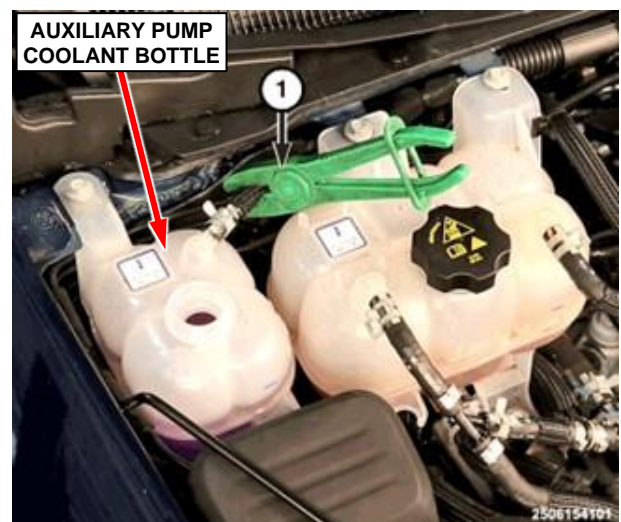

Figure 67 – Cooling System Refill
- b) Using suitable hose-pinching pliers (1), clamp-closed the degas hose near the coolant reservoir (Figure 67).